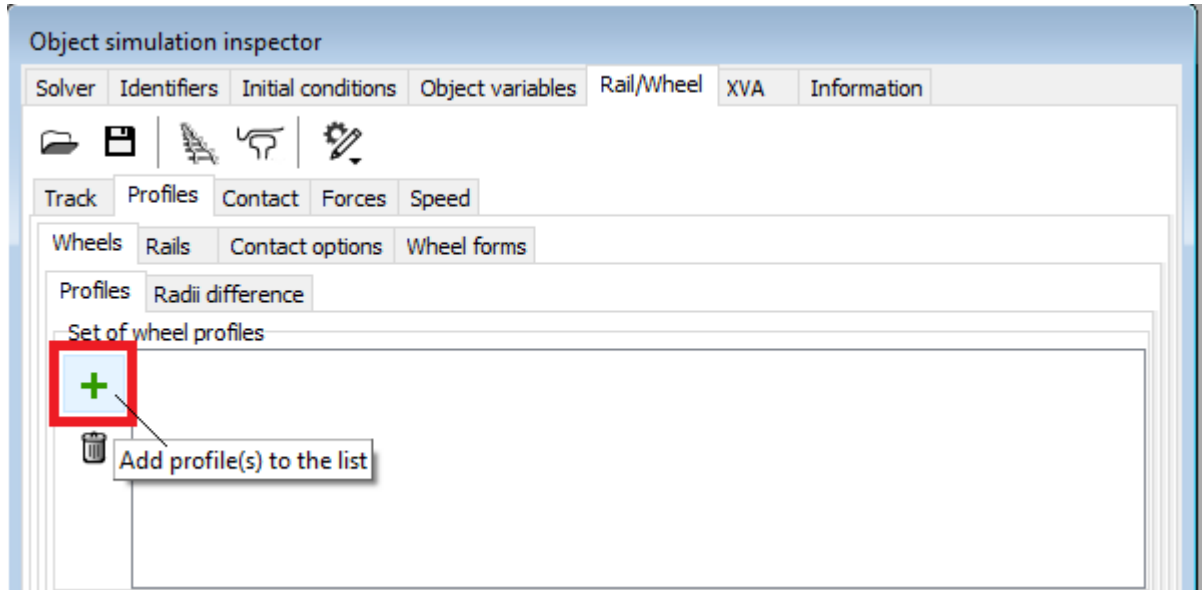

Figure 1.3. Rail and wheel profiles
5. Point to the **Wheels | Profiles** tab, see Figure 1.3.